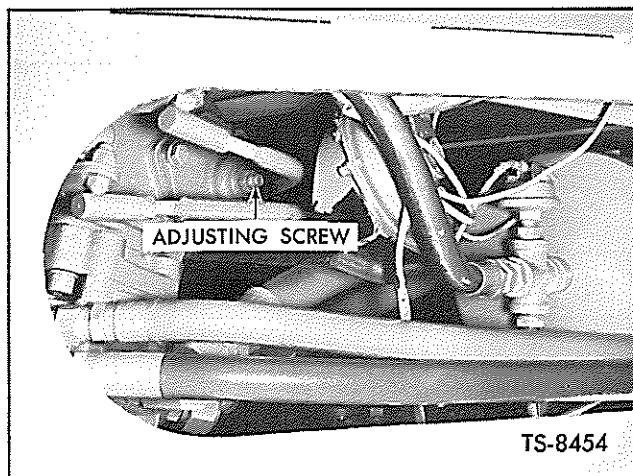

Fig. 46. Adjust Steering Gear
4. Loosen locknut and turn adjusting screw clockwise to increase pull at wheel, counter-clockwise to decrease the pull. See Figure 46. Reset locknut and recheck pull, as it must be within the specified limits after the locknut is tightened.